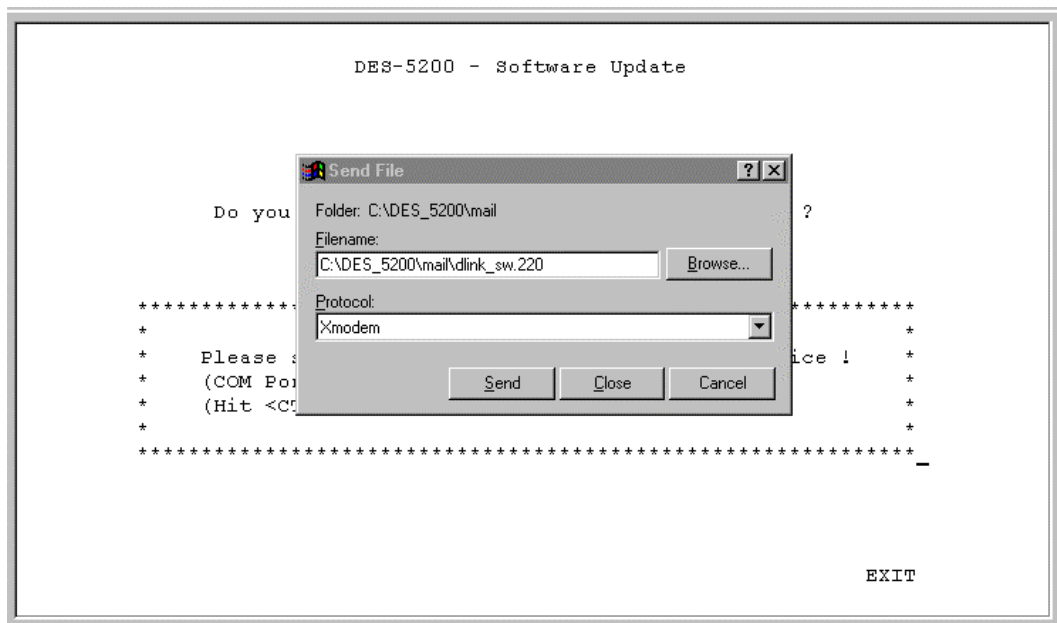
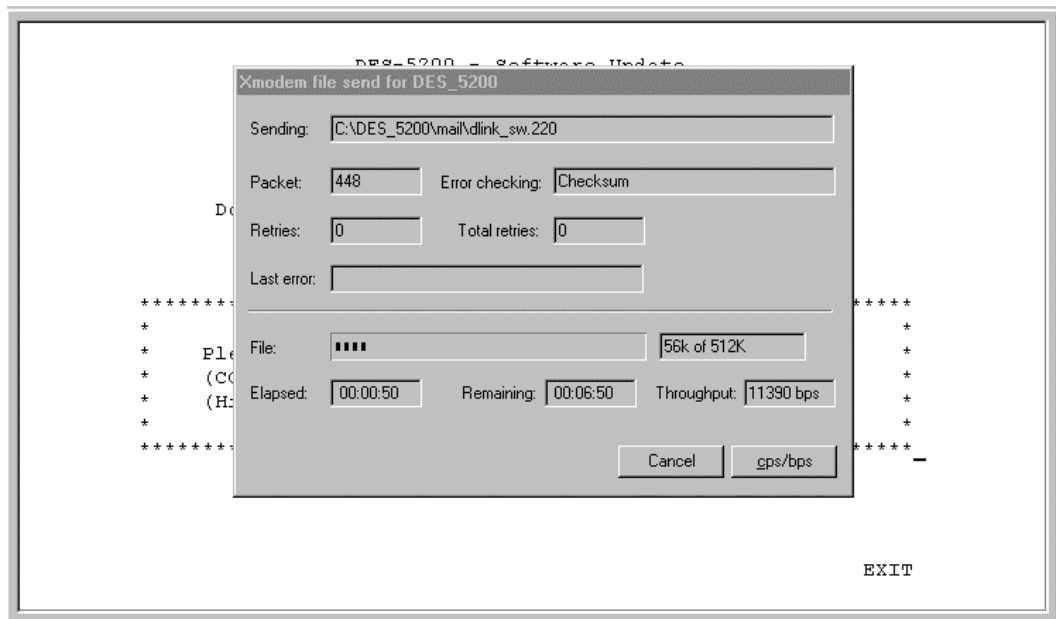

Figure 29: Send File
Figure 30: XMODEM
5. Go to Transfer on the HyperTerminal menu and select Send File, Figure 29. Browse to the location of the software update and send the file. You will see the panel displayed in Figure 30, that shows elapsed time and other information about the software update.